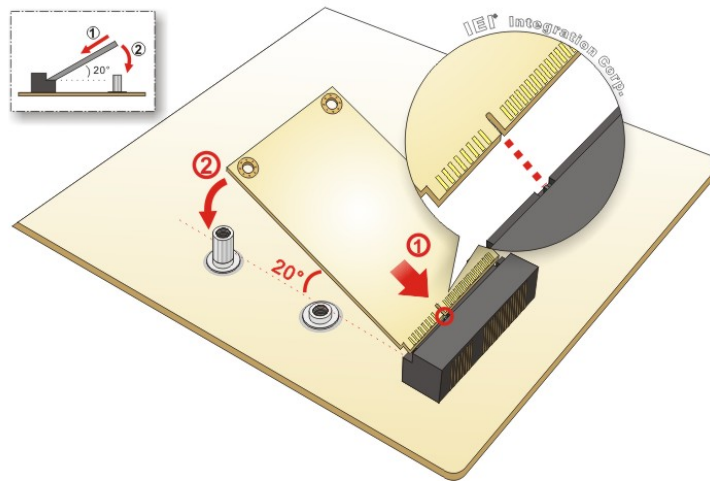

Figure 3-10: Inserting the PCIe Mini Card into the Slot at an Angle
Step 4: Insert into the socket at an angle. Line up the notch on the card with the notch on the slot. Slide the PCIe Mini card into the socket at an angle of about 20° (Figure 3-10).